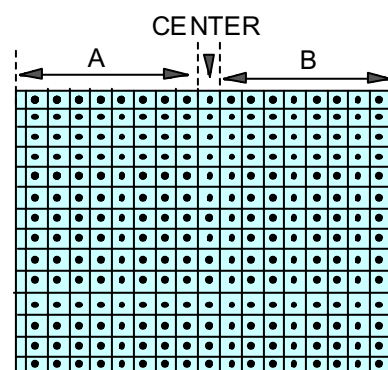

Fig.1-2 PAL CONVERGENCE
2. Use the VOLUME + or - key on the remote controller to adjust and position the dot mark appearing in the center of the CONVERGENCE screen to the middle and to equalize the number of boxes appearing in the right and left sides of the screen (A=B). (Fig. 1-2)